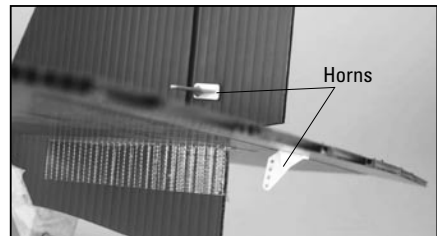

fig. 4
- ▼ 2. Secure tail plane and fin by using Bullet tape (see fig. 4). Ensure that the Bullet tape is well adhered to both tail plane and fin with approximately half the width of the tape on each surface.
- ▼ 5. Fit plastic control horn to the left side of the rudder approximately 40mm up (see fig. 4 & 5).
- ▼ 6. Fit another plastic control horn to the elevator underside approximately 10mm to the right of the centre line (see fig. 4 & 5).